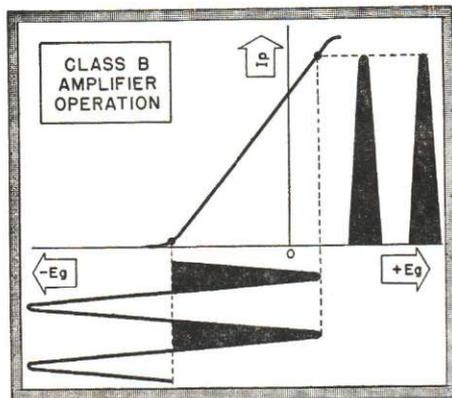

FIG. 6. In class B amplifiers, only half of the incoming signal is effective in producing plate current pulses.
► For some purposes, we do not want the plate current variations to be exactly like the entire signal applied to the grid circuit. We may, for example, apply a bias sufficient to cut off plate current, as shown in Fig. 6. Now when we apply a signal, we will get half-wave pulses in the plate circuit—in other words, very little (if any) plate current will flow until the positive signal alternations overcome the bias. This is called class B operation and is very necessary for certain purposes.
► If we allow the grid signal to swing over into the positive region (Figs. 6 and 7), class B and class C amplifiers become far more efficient than class A (that is, they produce more output for the same plate supply power). However, the resulting distortion generally limits such operation to special stages where the distortion can be overcome or does not matter. We shall explain these uses in later lessons.